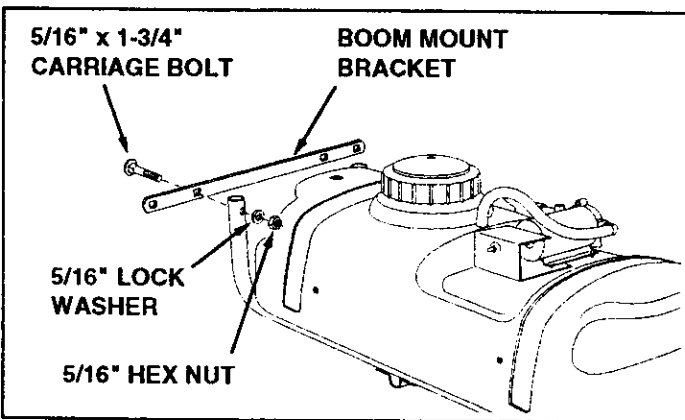

FIGURE 5
- **Tighten** the two bolts which fasten the boom mount bracket to the rear of the hitch tubes. See figure 5.